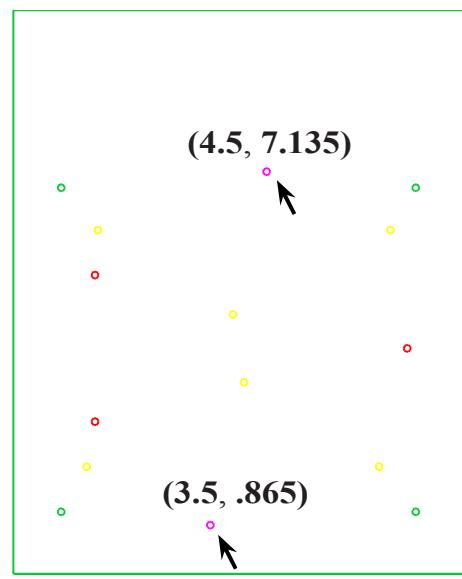

Fig. 10
- Step 9. Key-in the X, Y coordinates into the **Fast Point**  Pin Holes, Fig. 10